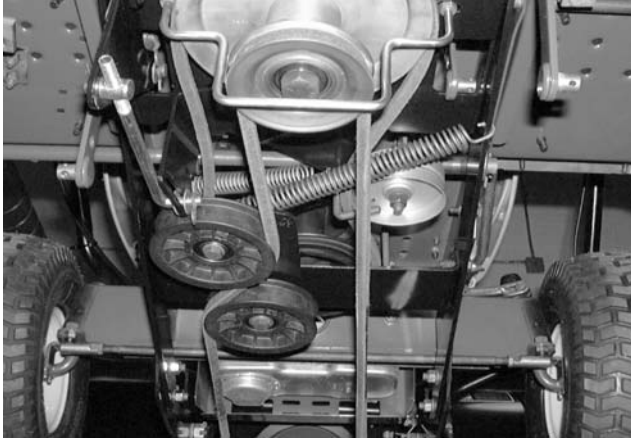

Figure 12-86.
32. Pivot the belt guard to the left. See Figure 12-86.